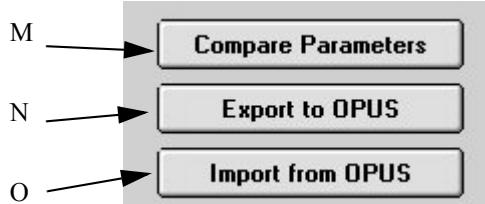

Figure 368: OVP Accessory Manager - Measurement parameters options
- 11)Instead of typing parameter values you can load the parameters directly from OPUS. Load an experiment or set the parameters by the *Setup Measurement Parameters* command in the OPUS *Measure* menu. Confirm the settings. Return to the accessory manager and use the *Import from OPUS* button (O in figure 368) to read the parameters from OPUS. The *Compare Parameters* button (M) can be used to compare any values entered to the current OPUS setting. The *Export to OPUS* button (N) overwrites the current OPUS settings by the parameters manually entered.